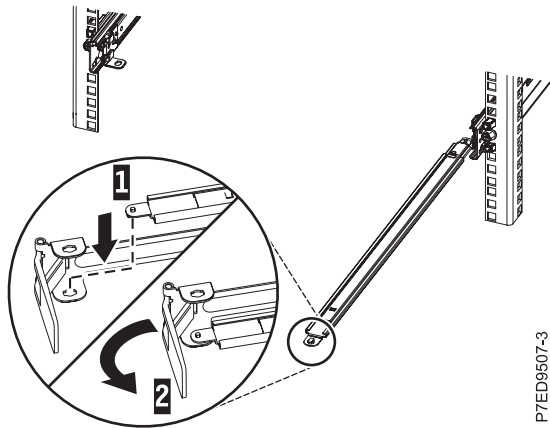

Figure 13. Securing the cable-management stop bracket to the support arm
2. Locate the hole at the bottom inside corner of the L-shaped cable-management stop bracket (B). Position the unattached end of the support arm so that the locking tab on the underside of its tip aligns with the bracket hole. Insert the tab into the hole (1) and turn the bracket (2) to secure it to the support arm, as shown in Figure 13 on page 11.